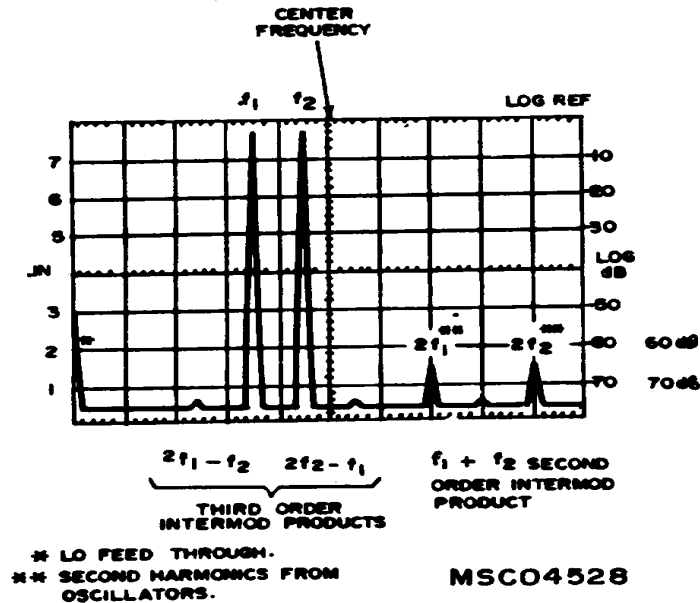

Figure 17. Intermodulation distortion products.
(4) Adjust function generator frequency for 70 kHz at 3 mV.
(5) Adjust signal generator frequency for 90 kHz at amplitude equal to that set in (4) above.
(6) Carefully adjust amplitudes of function generator and signal generator so that both signal peaks are 3 dB below LOG REF graticule on display screen. The signals at 140 kHz ($2f_1$) and 180 kHz ($2f_2$) (fig. 17) are second order harmonics. Any second order intermodulation product (due to analyzer) will occur at 160 kHz ($f_1 + f_2$). Any third order intermodulation products will occur at 50 kHz ($2f_1 - f_2$) and at 110 kHz ($2f_2 - f_1$). The intermodulation products should be below -70 dB graticule line.
(7) Repeat technique of (4) through (6) above with function generator at a frequency of 1.7 kHz and signal generator at a frequency of 2 kHz.
(8) Position **SCAN WIDTH PER DIVISION** switch to **500 Hz** and **BANDWIDTH** switch to **30 Hz** for model 8552B or **50 Hz** for model 8552A. Set **SCAN WIDTH** to **0-10f**.
(9) Adjust function generator and signal generator controls to set both signal peaks 3 dB below LOG REF graticule on display screen. The signals at 3.4 kHz ($2f_1$) and 4.0 kHz ($2f_2$) are second order harmonics (fig. 17). Any second order intermodulation product (due to analyzer) will occur at 3.7 kHz ($2f_1 - f_2$). Any third order intermodulation product will occur at 1.4 kHz ($2f_1 - f_2$) and at 2.3 kHz ($2f_2 - f_1$). All intermodulation products should be below -60 dB graticule line.